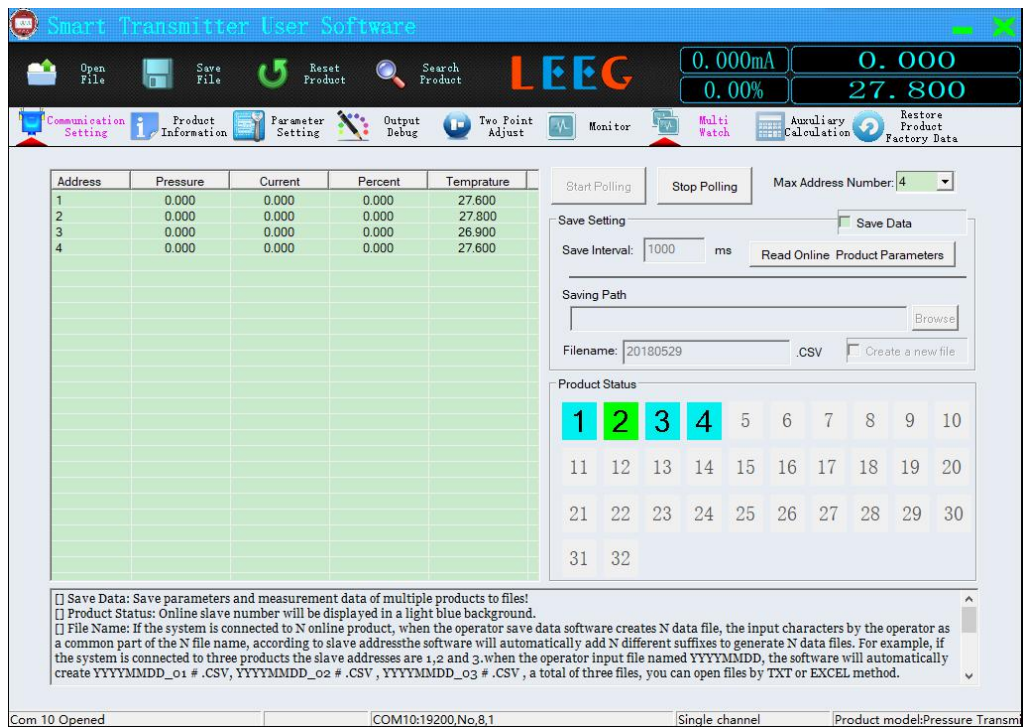

Figure 10
10. "Multi-Watch", as shown in Figure 10